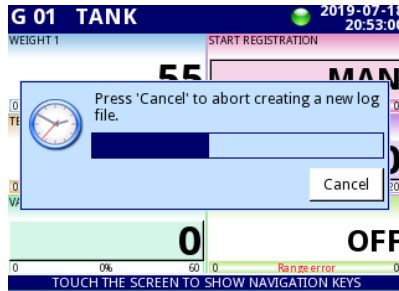

Fig. 7.38. Example of a message about the possibility of abort creating a new log file
- **Time delay** – this parameter at the time of triggering from logical channel creating a new log file allows to set time delay to creating a new log file. During time delay a message showed in **Fig. 7.38** is displaing, allowing the user to abort creating a new log file, when creating a large number of log files may occur a delay up to 40 seconds to create the files structure, then the values of recorded channels are save,